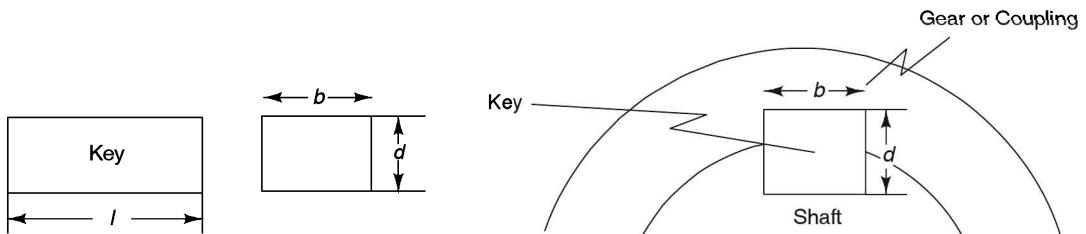

FIGURE 17.4 A gear connected to a key.
Shear failure of key: A key is commonly used for connecting a gear or coupling to a shaft in engineering applications (Figure 17.4). It is a wedge-like part to prevent relative motion between two parts of transmitting torque (T).